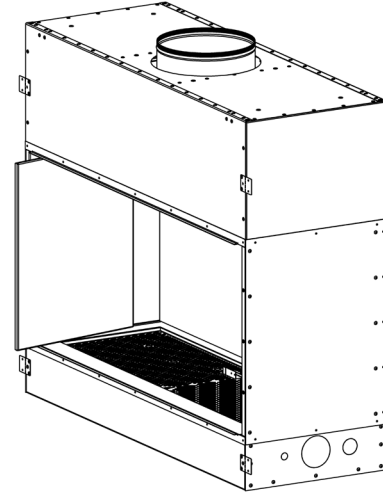

Figure 35 - Side Panel Installation
1. Insert the side panel, whether right or left, through the corresponding side wall, as close to the internal walls of the fireplace as possible (see figure 35). Rotate it slightly so that the front edge will sit on the viewing area. Then pivot the panel to push the short edge (close back wall) to the side wall (see figure 36). Repeat the same steps for the remaining side.